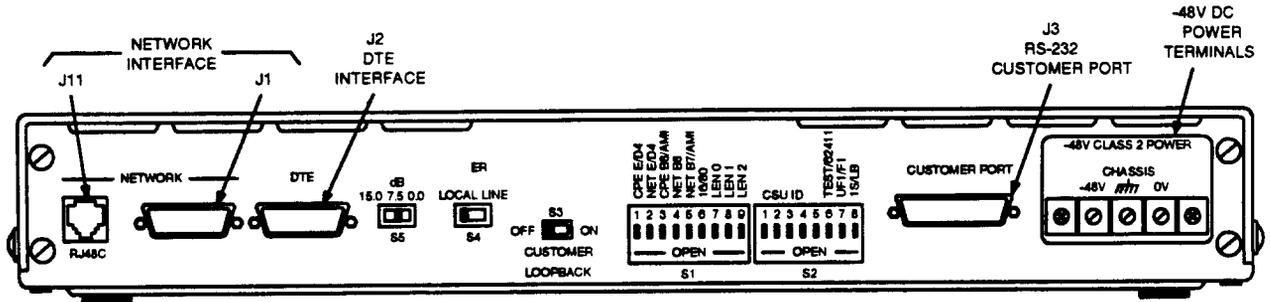

Figure 3. 551E-L1, A ESF CSU Rear Panel
2.08 On the rear panel of the 551E-L1, A (Figure 3), there are four external connectors, -48 V DC power spade-lug terminals, and a **CUSTOMER LOOPBACK** switch. The **CUSTOMER LOOPBACK** switch (S3) is a slide switch which causes customer data sent from the DTE to be looped back to the DTE when placed into the **ON** position. An **ER** stamped on the rear panel represents extended range (ER). ER allows for cable losses of up to 27 dB toward the network.
- **NETWORK** - J11 and J1 are two different types of connectors used to connect to the DS1 line facility (Figure 3). J11 is an 8-pin modular-type connector (RJ48C). It provides connections to the network through an M4AU data cord or equivalent. However, J11 does not provide connections for the fault-locating filter option. J1 is a 15-pin male D-type connector (KS-19088, List 15). J1 provides connections to the network and for the fault-locating filter option through a 758A cable pair with shield or equivalent and a KS-19087, List 1 connector or an equivalent connector.
3.03 The five switches used to set options are **S1** (a 9-section dip switch), **S2** (an 8-section dip switch of which only sections 6, 7, and 8 are presently used), **S3** (a 2-position slide switch), **S4** (a 2-position slide switch), and **S5** (a 3-position slide switch). See Figure 3. Switch **S2** has 5 sections reserved for future applications.
3.06 The 551E-L1, A CSU external connections are made with male and female 15-pin, D-type connectors, an 8-pin modular telephone jack, and -48 V DC power spade-lug terminals (Figures 3 and 6).